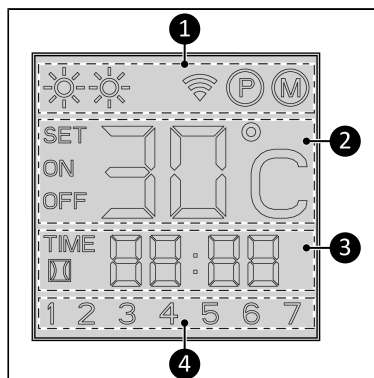

Figure 22.
Status indication (Figure 22, pos. 1):
Temperature indication (Figure 22, pos. 2):
Time indication (Figure 22, pos. 3):
Day indication (Figure 22, pos. 4):